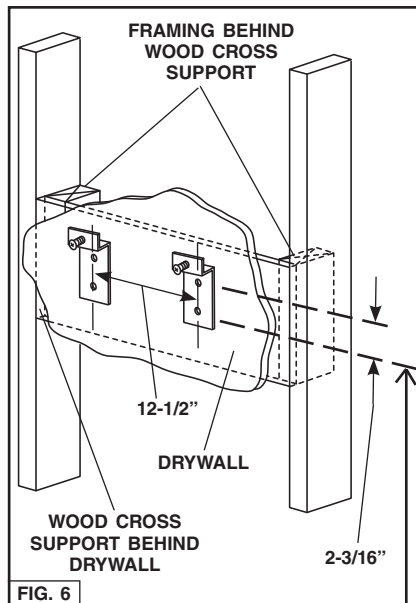

FIG. 6
1. Construct wood wall framing that is flush with interior surface of wall studs. Fig. 6.